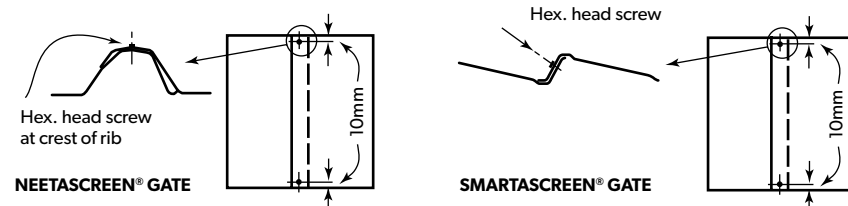

FIGURE 20.3:
3. Using tin snips, notch the four corners. The top and bottom notches are different (Figure 20.3).
9. Check squareness by measuring the gate's diagonals. Drive a second hex. head screw (see below) in each of the four corners, at first inner rib (non side-lap rib) of infill sheet from the stile for NEETASCREEN® and SMARTASCREEN® (Figure 20.3).